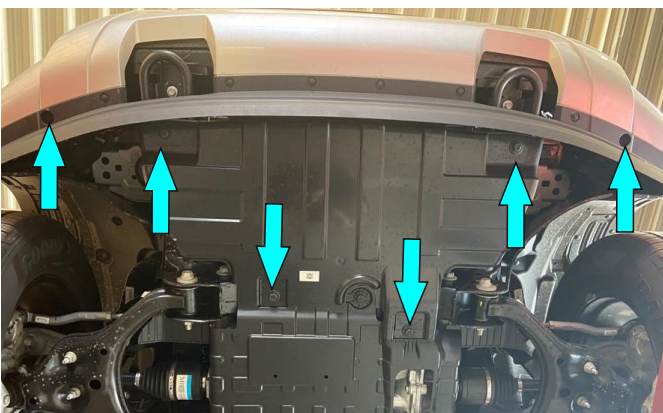

Fig.11
11. Unscrew bolts, remove factory skid plate (fig.11).